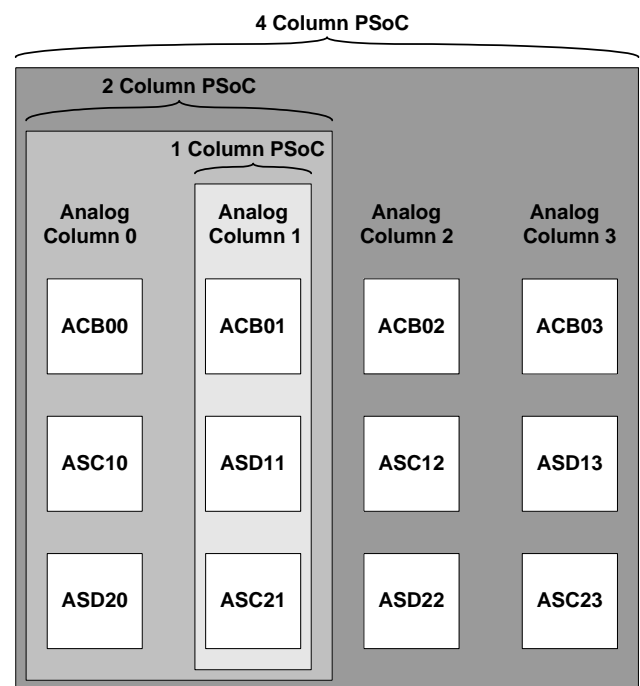

Figure 19-1. Array of Analog PSoC Blocks
**Figure 19-1** displays the various analog arrays, depending on the column configuration of the PSoC device. Each analog column has 3 analog blocks associated with it. In the figures throughout this chapter, shading and call outs portray the different column configurations that are available in a PSoC device.